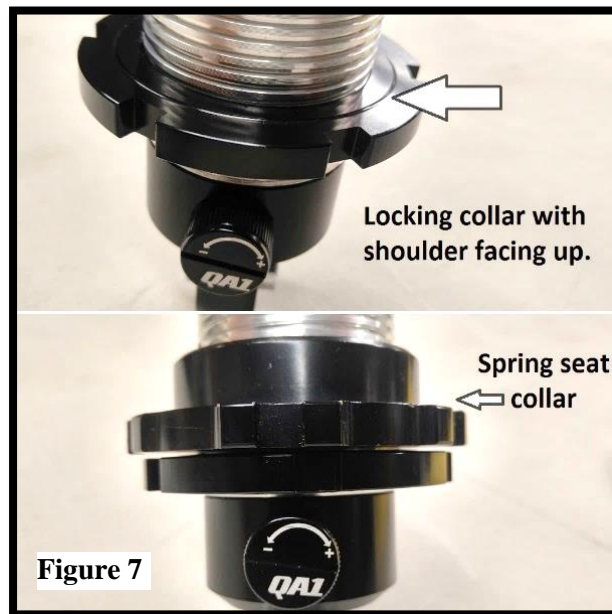

Figure 7
- 7) Thread the aluminum locking collar (shoulder up) onto the shock, followed by the spring seat collar (shoulder up) down to the bottom shock thread - NO FURTHER. **(Figure 7)**